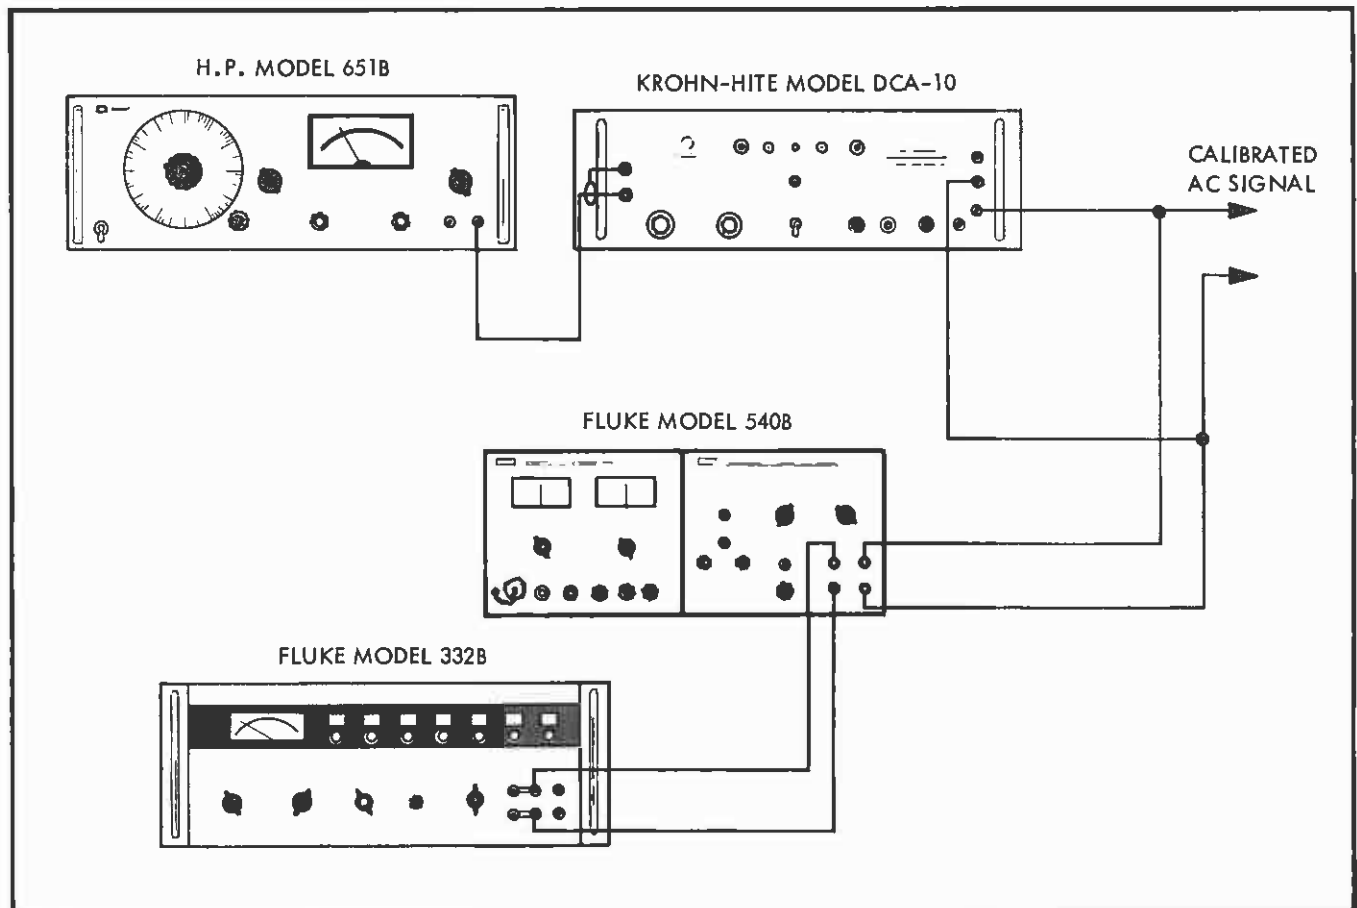
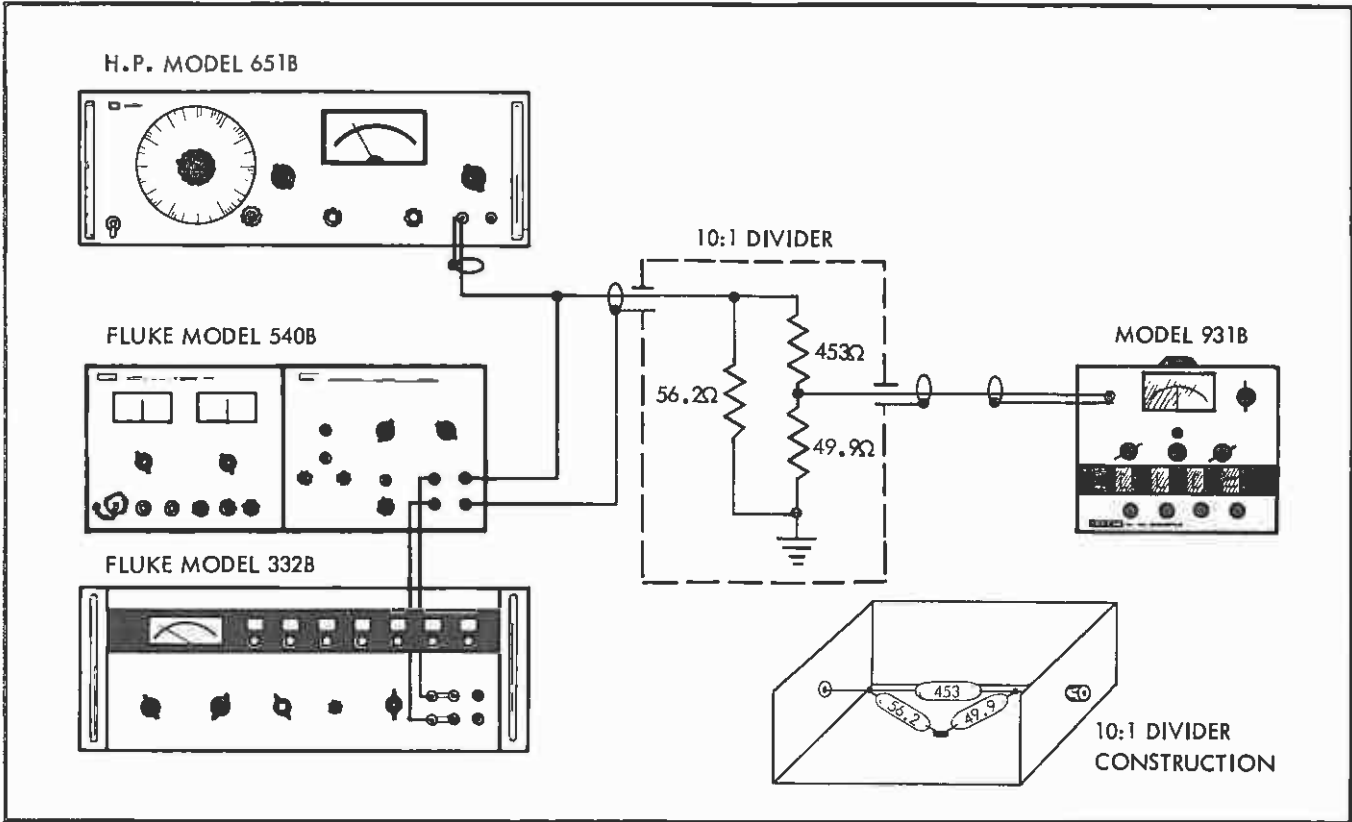

Figure 4-3. 5 Hz TO 500 kHz AC CALIBRATION SOURCE
Figure 4-4. 20 kHz TO 500 kHz 0.1 VOLT RMS AC CALIBRATION SOURCE
20 kHz, 500 kHz, and 5 MHz. An ac source such as the one illustrated in Figure 4-3 can be used to obtain calibrated 1.0 to 100 volt rms signals, accurate to within $\pm 0.01\%$, at frequencies from 5 Hz to 500 kHz. The 5 MHz 0.1 and 1.0 volt rms signals, accurate to within $\pm 5\%$, can be obtained directly from the output of the oscillator described in Figure 4-1. A calibrated 0.1 volt rms signal, accurate to within $\pm 0.01\%$, at frequencies of 20 kHz, 50 kHz, and 500 kHz can be obtained using the equipment connections and 10:1 divider illustrated in Figure 4-4 and performing the following steps:
- Make the equipment connections illustrated in Figure 4-4.